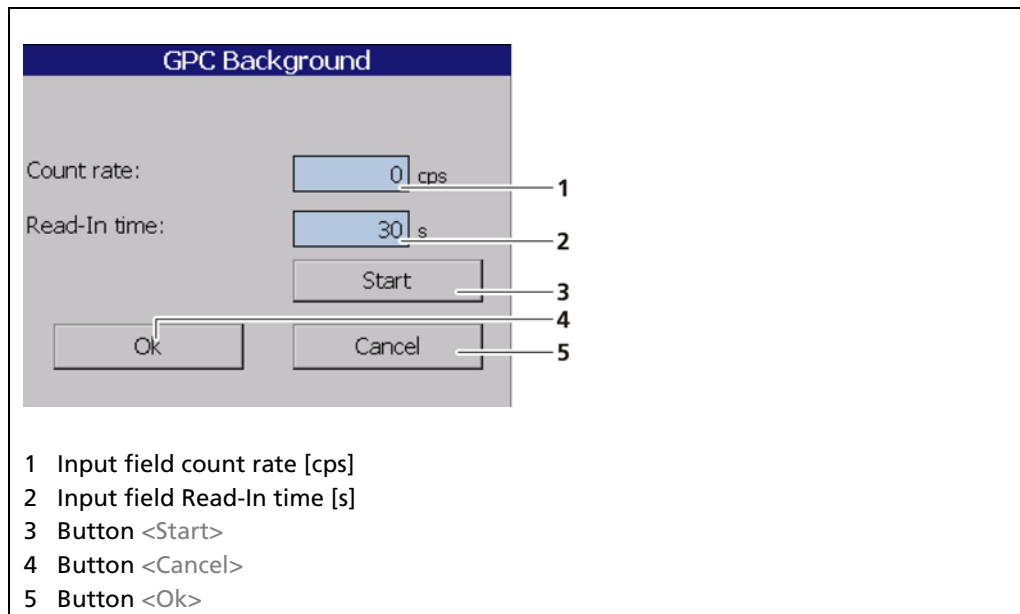

Fig. 79 GPC calibration background
- ▶ A new window "Background" opens to determine the background radiation (Fig. 79).
The value of the count rate can be entered manually (Fig. 79, item 1) if a determination of background radiation without interference radiation effects is not possible.